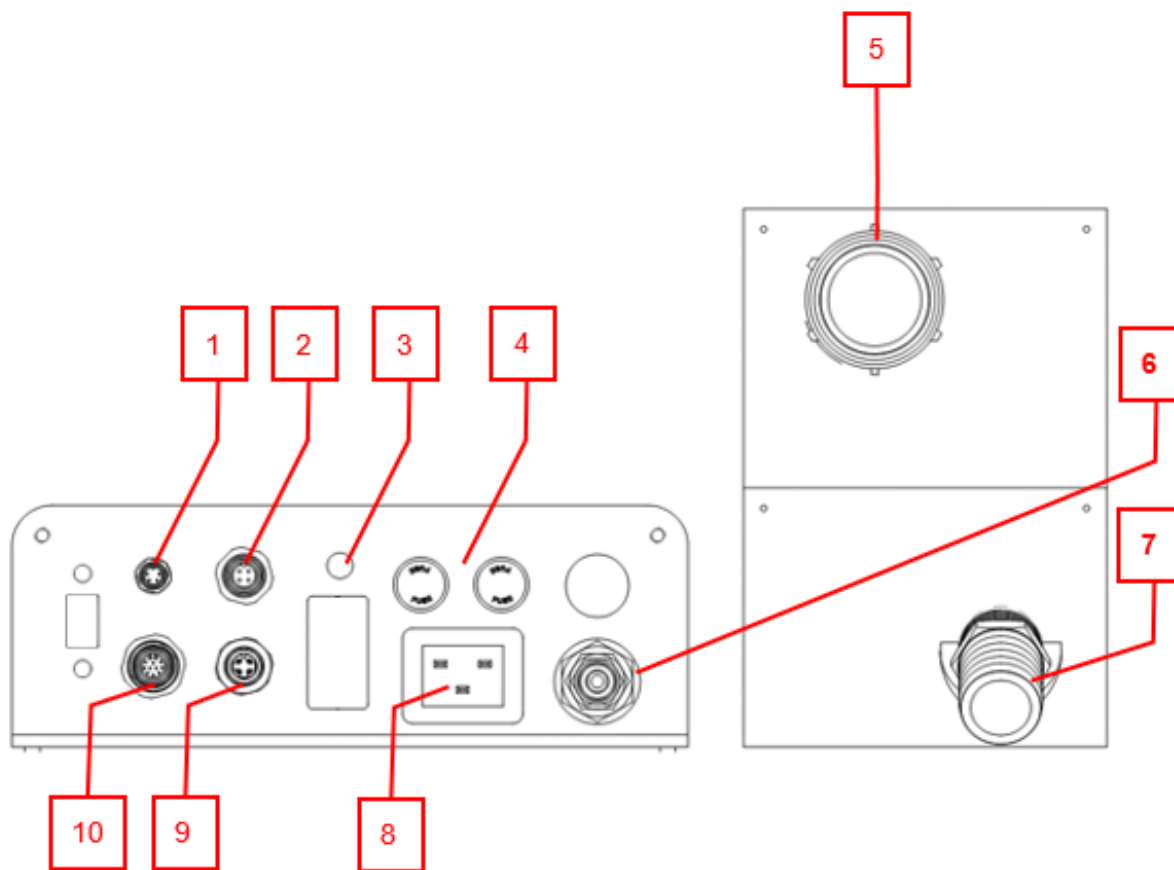

Figure 4: Cee® Apogee® 450 Flange Spin Developer Facilities Connections
3. Connect utilities per the reference diagram in *Figure 4: Cee® Apogee® 450 Flange Spin Developer Facilities Connections*.